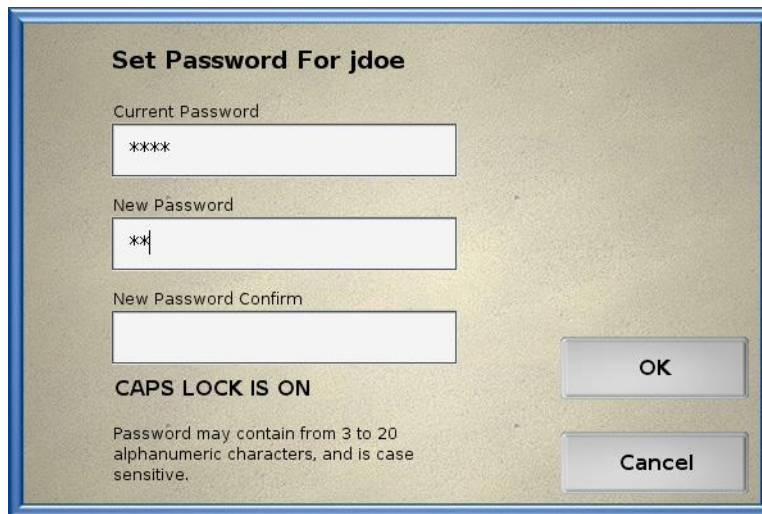

Figure 3-46. Password Setup window
- 1. Enter the following information in the Password Setup window: Current Password, New Password, and New Password Confirm (Figure 3-46). Your password, which is case sensitive, may contain from 3 to 20 alphanumeric characters.